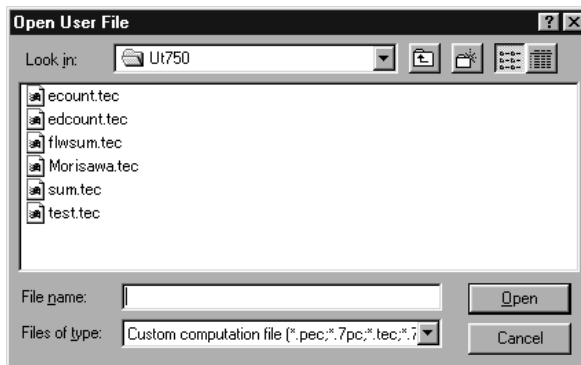

Figure 7.3.1 [Open User File] Dialog Box
- (1) From the tool menus, click <File>, then <Open...>. The [Open User File] dialog box (Figure 7.3.1) appears.
- (2) From the list box, choose the file in question.
- (3) Click the <Open> button.
- (4) When file reading is complete, the message of [Data have been loaded] appears. Click the <OK> button. The [Custom Computation Configuration Menu] dialog box appears.